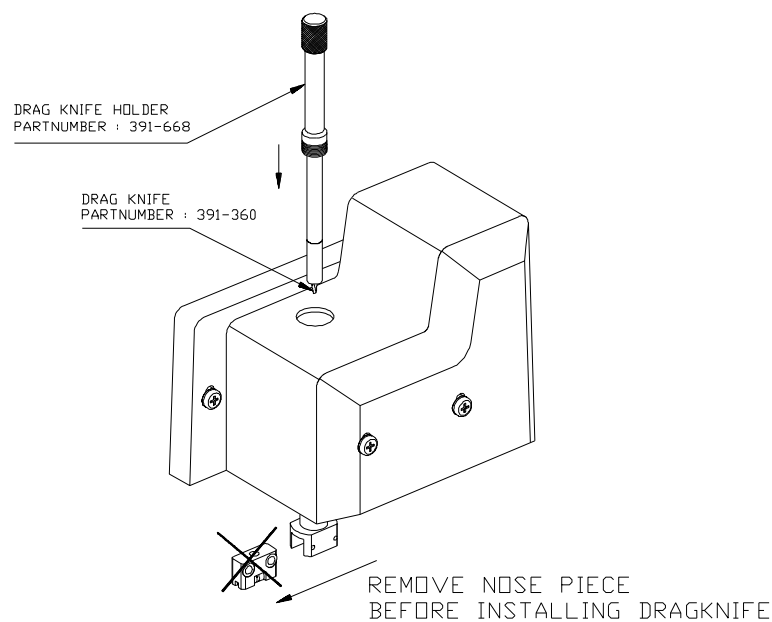

FIGURE 1-12 :
3. Remove the nose piece (refer to Fig 1-12).
4. Insert the drag knife in the tool shaft as shown in Fig 1-12. Turn the drag knife holder clockwise while holding the nose piece holder in place.